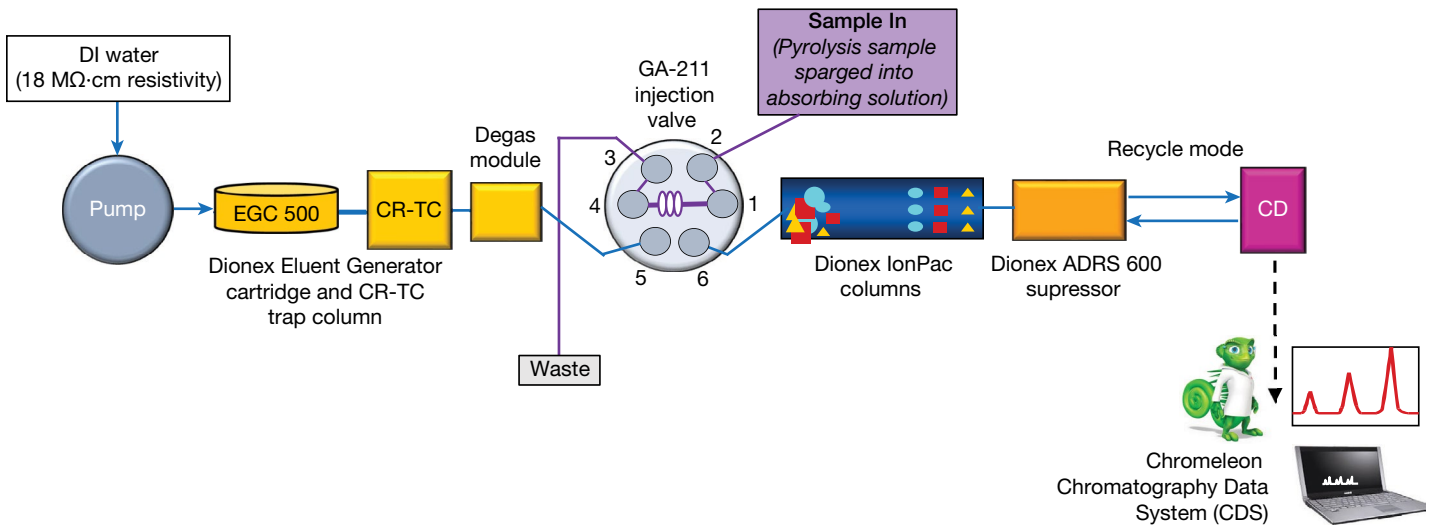
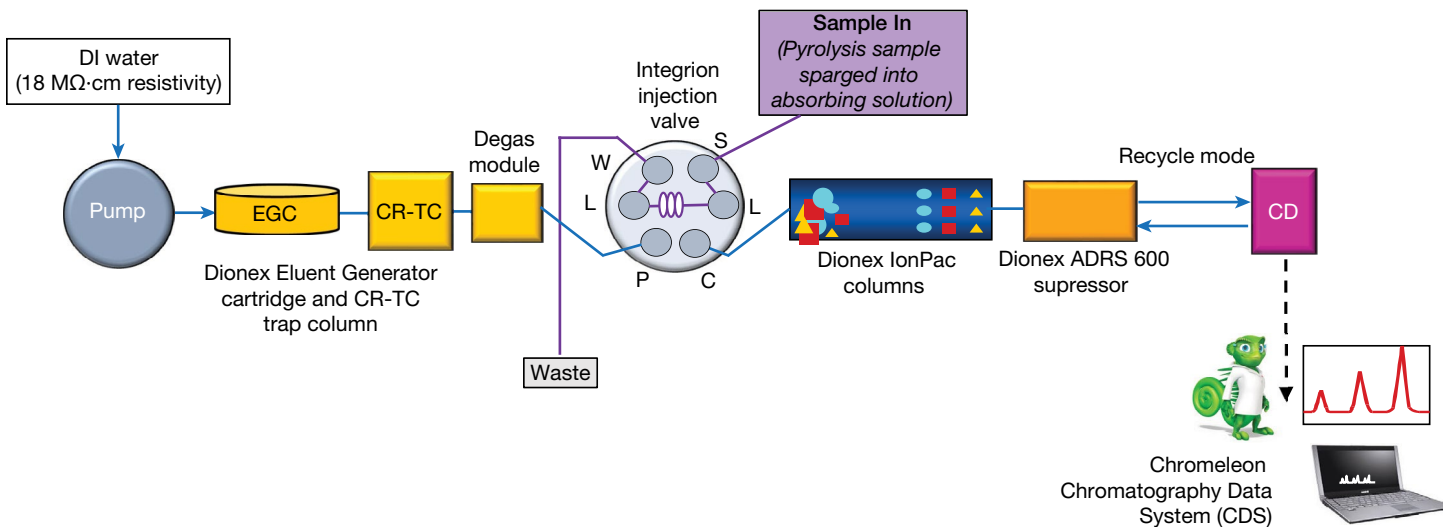

Figure 9. Schematic for CIC using the GA-211 injection valve, in Load position
Figure 10. Schematic for CIC using the Integriion injection valve, Load position
1. Plumb the Dionex Integrion HPIC system based on the intended application (refer to Figure 9, 10, or 11).
This is the recommended configuration. In this configuration, the sample loop is installed on the Nittoseiko GA-211 injection valve. When the sample is ready for IC analysis, the Nittoseiko GA-211 pump loads the sample loop from the absorption tube. The schematic is shown in Figure 9. This setup is recommended for IC applications with pressures up to 5,000 psi.
In this configuration, the sample loop is installed on the Dionex Integriion injection valve, instead of using the injection valve in the Nittoseiko GA-211 module (Figure 9). Plumb the system as shown in Figure 10:
4. Complete the installation according to the flow diagram in Figure 9, 10, or 11.